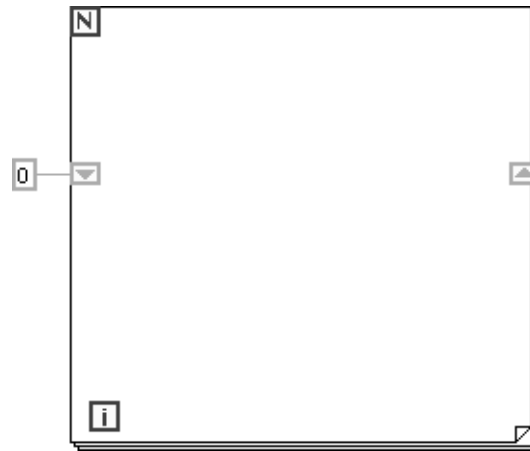

Figure 9.51
- An **initialized shift register** is assigned a value before the loop begins to iterate. The shift register in Figure 9.51 has been initialized with the value zero. The first time the For Loop cycles, the shift register will have the value zero.
The data type associated with a shift register is assigned when the first connection to any shift register terminal is made. In Figure 9.51 the data type of the constant was double-precision floating point (DBL), so all connections to that shift register must be compatible with the DBL data type.